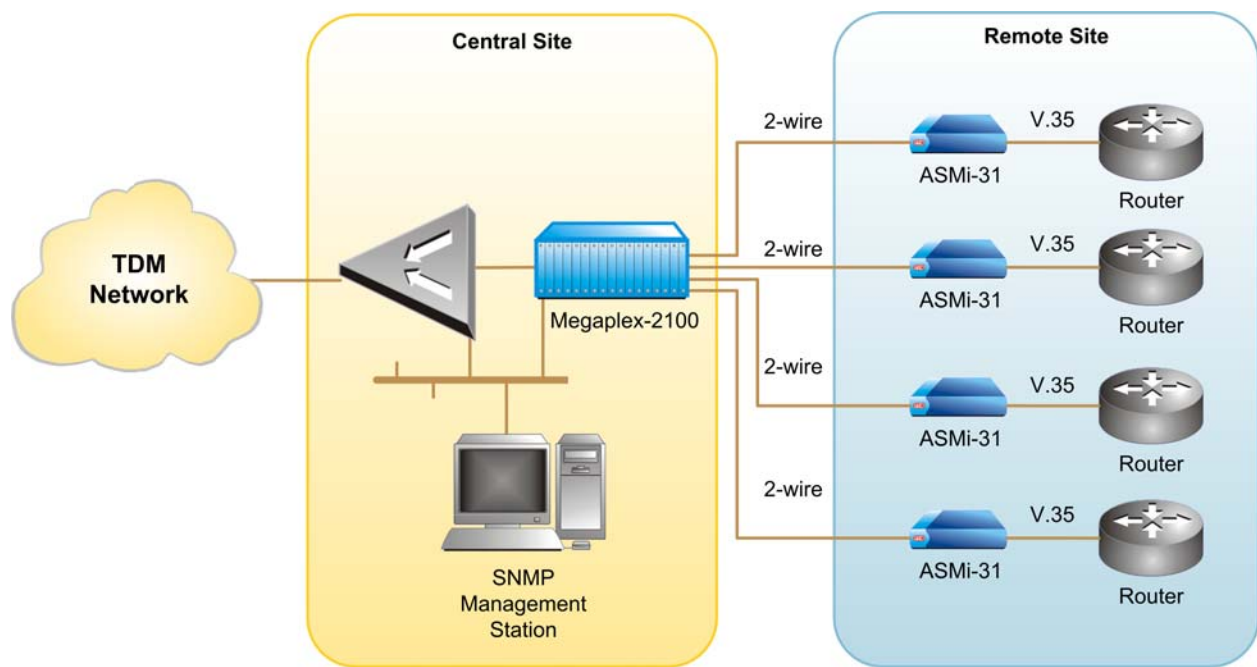

Figure 1-1. Central Site Application with SNMP Management
*Figure 1-1* illustrates the ASMi-31 central site application with SNMP management, where four remote ASMi-31 units operates opposite Megaplex-2100.